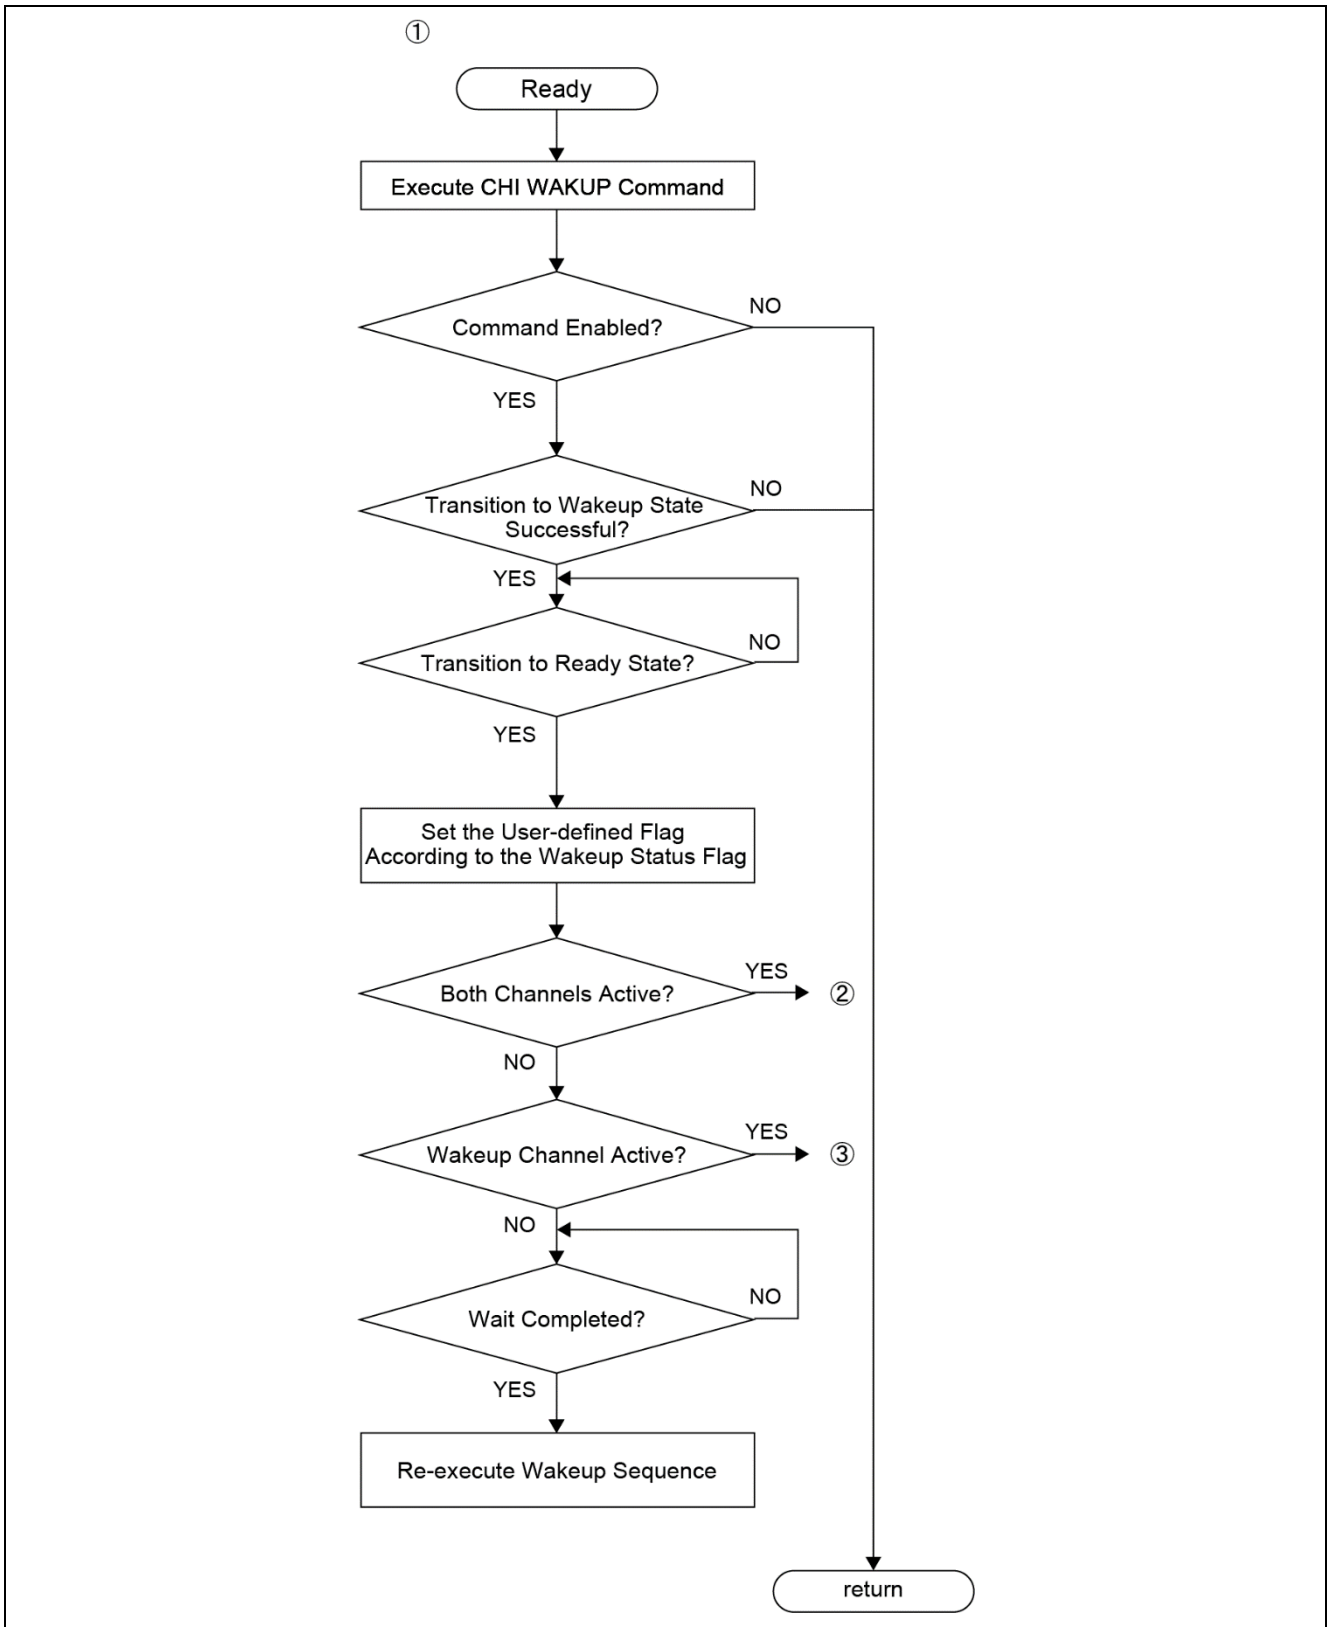

Figure 3-4 Example Wakeup Sequence (2)
Figures 3-4 through 3-7 show examples of the Wakeup procedure when operating as a Wakeup master node or a Cold-start node.
For the control procedure example, refer to Figure 3-4. Since both channels are active, control step ② is executed.